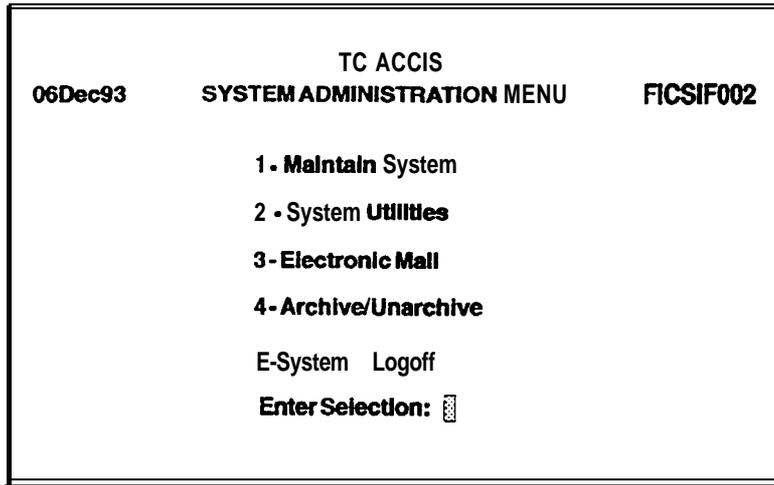

Figure 8-4. TC ACCIS System Administration Menu
2. Enter your **tcadmin password**. The TC ACCIS System Administration Menu is displayed as shown in Figure 8-4.